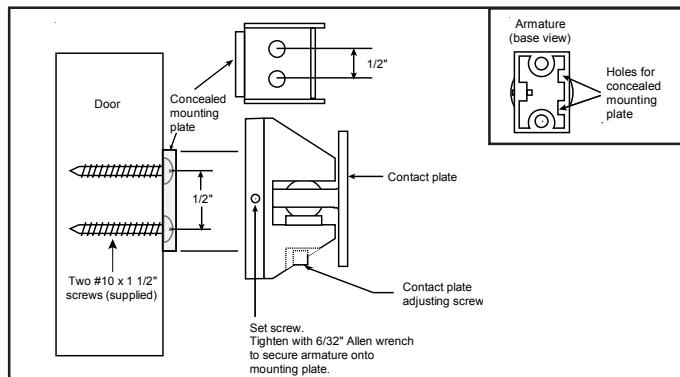

Figure 6. Surface Concealed Mounting
- b. **Surface concealed mounting (Figure 6).** Measure two points for 1/8" holes drilled 1/2" on center equidistant from each marked point. Center punch the holes and drill 1/8" diameter x 1 1/4" deep. Install the concealed mounting plate using the two #10 x 1 1/2" screws provided.
Align the holes for the concealed mounting plate in the armature base with the pins on the concealed mounting plate. Secure the armature assembly, with the contact plate adjust screw facing down, to the door by tightening the set screw as shown in Figure 6.